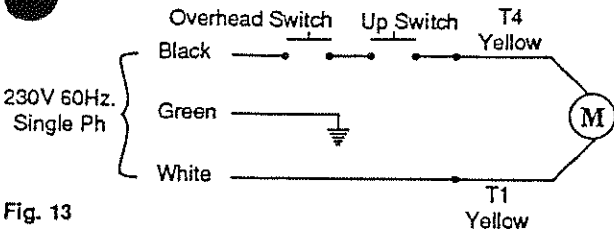

Fig. 13
**12. Overhead switch:** Check overhead switch assembly to assure that switch bar is depressing switch plunger sufficiently to actuate the switch. The overhead switch is wired normally open, see Fig 13. Lift will not operate until weight of switch bar is depressing switch plunger.
**13. Electrical:** Have a certified electrician run 208-230 volt single phase 60Hz. power supply to motor Fig. 13&14a. Size wire circuit for correct amperage. See "IMPORTANT" below and also Motor Operating Data Table. For single phase, Fig.14a. For three phase, Fig.14b.